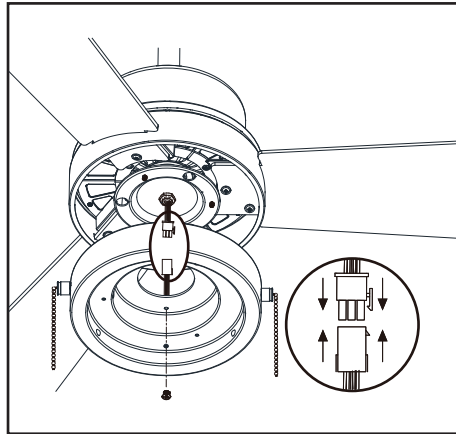

Figure 14
1. Remove one screw from the black bracket below the fan motor assembly. Loosen but do not remove the other two screws. (Figure 14)
2. Connect the 9-pin plug exiting the bottom of the fan motor to the 9-pin plug from the light kit pan. Be sure plugs connection snap together completely. (Figure 14)
3. Attach the light kit pan to the fan motor assembly by pushing the light kit pan up to engage the screw heads in the key slots and turn clockwise to secure. Reinstall the screw removed in first step, tighten each screw. (Figure 14)